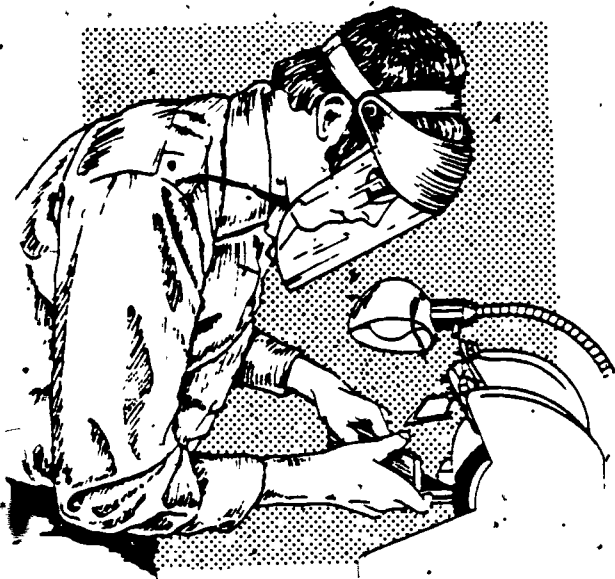

Figure 9. Face shields can protect the machine operator.
7. Adjust the wheel guard and wear safety glasses or a face shield (see Figure 9) before starting the wheel.